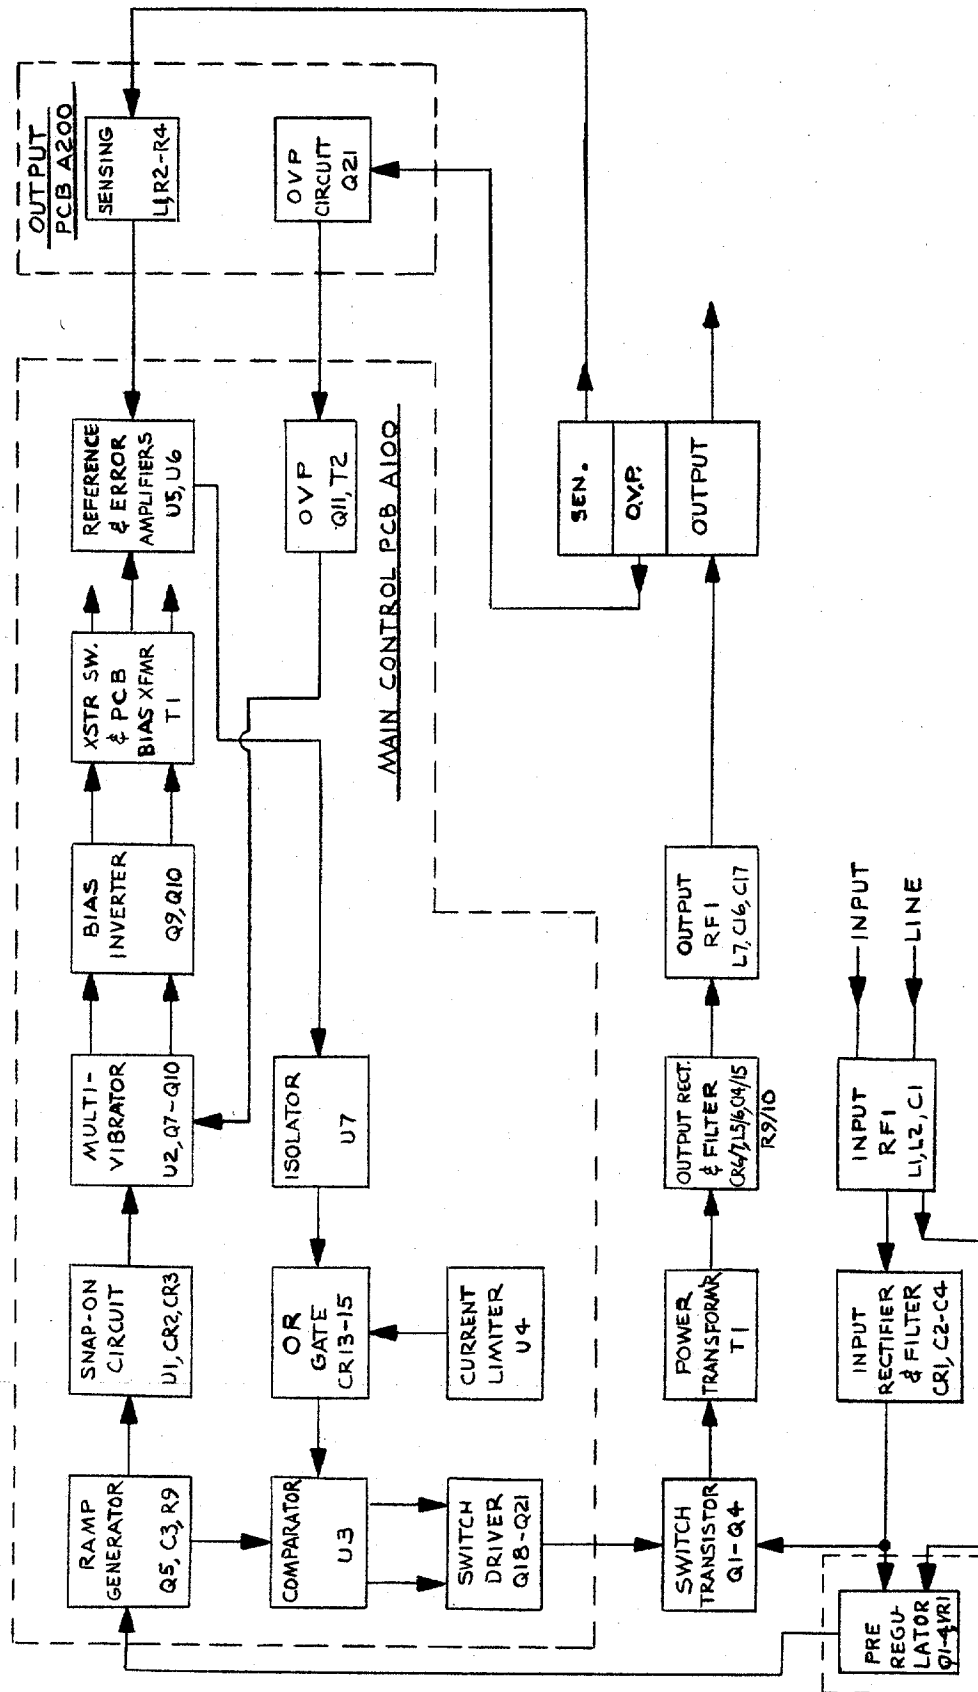

Figure 4-1 STM Simplified Block Diagram
4.1 BASIC STM PRINCIPLES (Refer to Figure 4-1, Block Diagram)